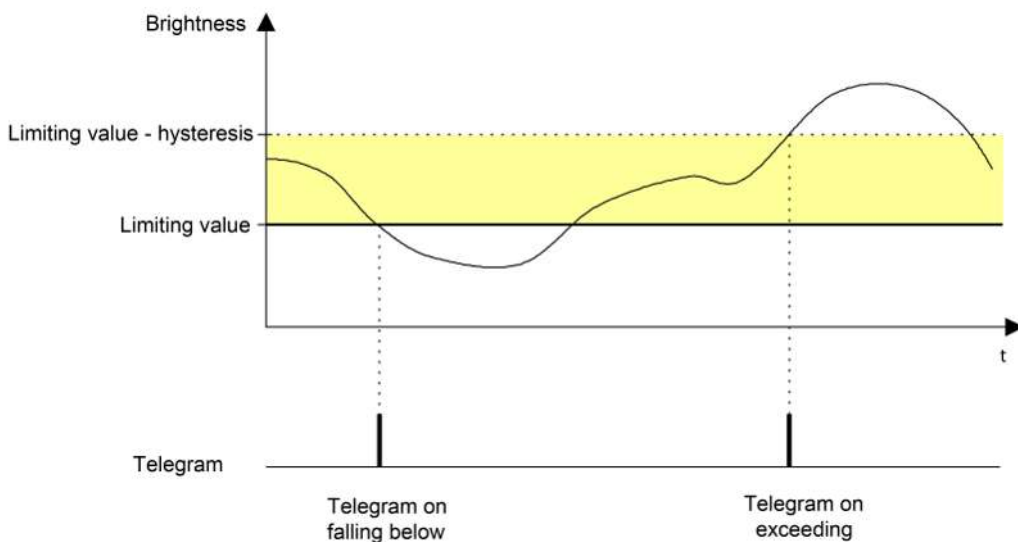

Figure 35: Example 2 of the limit value definition
2. Brightness limit value = lower threshold (see figure 35)